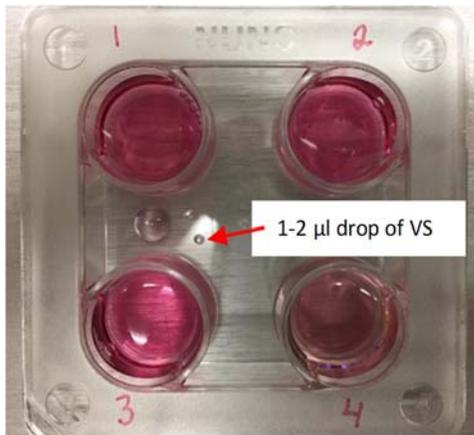

Figure 3. Vitrification dish showing the position of the 1-2 μL drop of VS placed between wells. This drop is a critical feature of the vitrification procedure.
5. Load the embryos in 1 to 2 μL of VS, then expel the embryos anywhere (we recommend making the drop close to the 15-20 μL drop of VS, see figure 3) on the vitrification dish trying to make a 1-2 μL drop. Once the 1-2 μL drop is made, hold the OPS straw at a 60-70° angle to the horizontal bottom, and touch the 1-2 μL drop containing 4 or 5 embryos with the narrow end of the OPS straw. The OPS straw will aspirate the embryos by capillary effect.